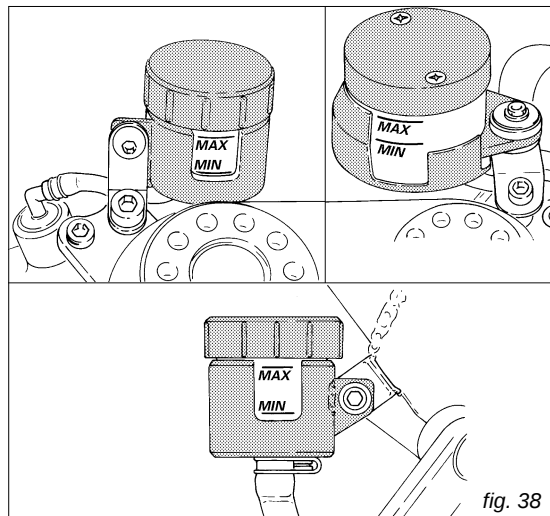

fig. 38
*Checking brake and clutch fluid level (fig. 38)